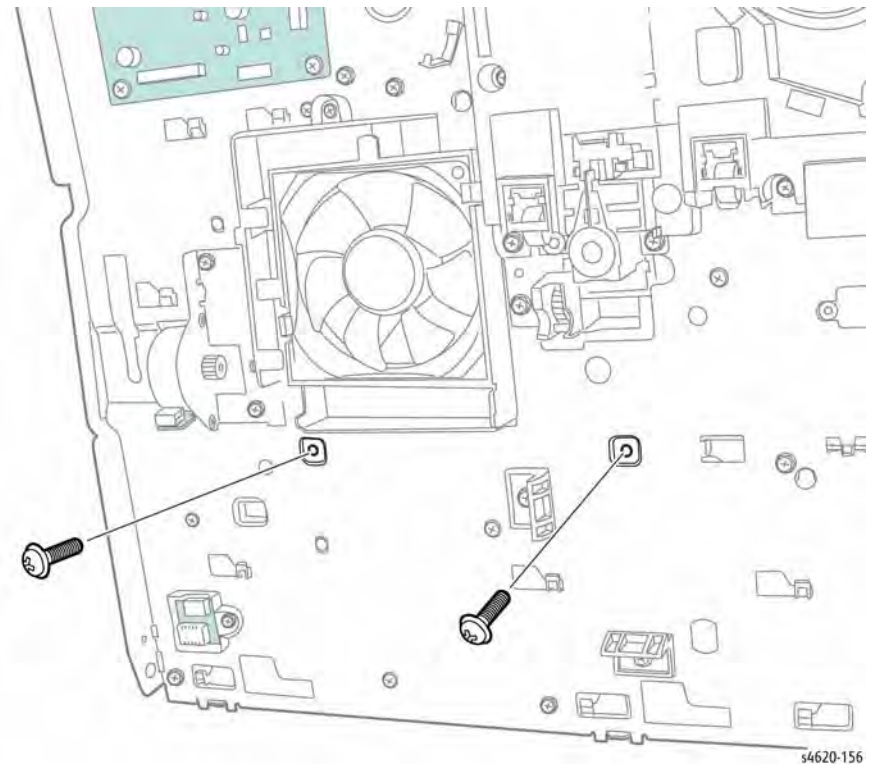

Figure 9 Remove the left side power supply tray screws
28. Remove 2 metal screws that secure the left side of the power supply tray, Figure 9.